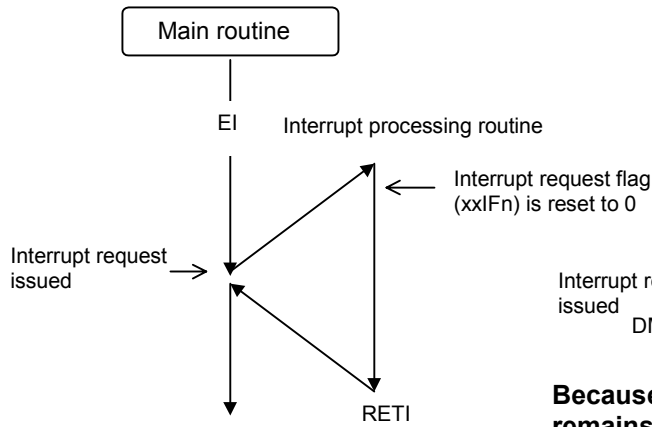

Figure 1. Normal Interrupt Processing
When the above conditions (1) to (3) coincide and interrupt processing begins, the interrupt request flag that should be reset by hardware is not reset, so that after returning from the interrupt processing routine (RETI instruction), the interrupt processing is executed again. (See figures 1 and 2.)